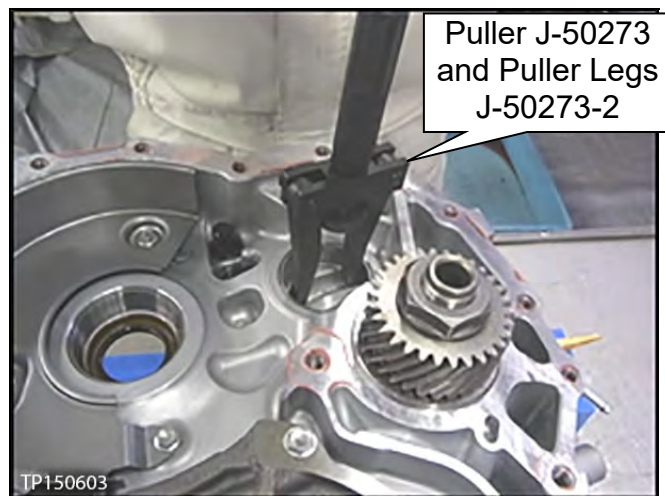

Figure 14
2. Remove the reduction gear outer race from the CVT case (see Figure 14).